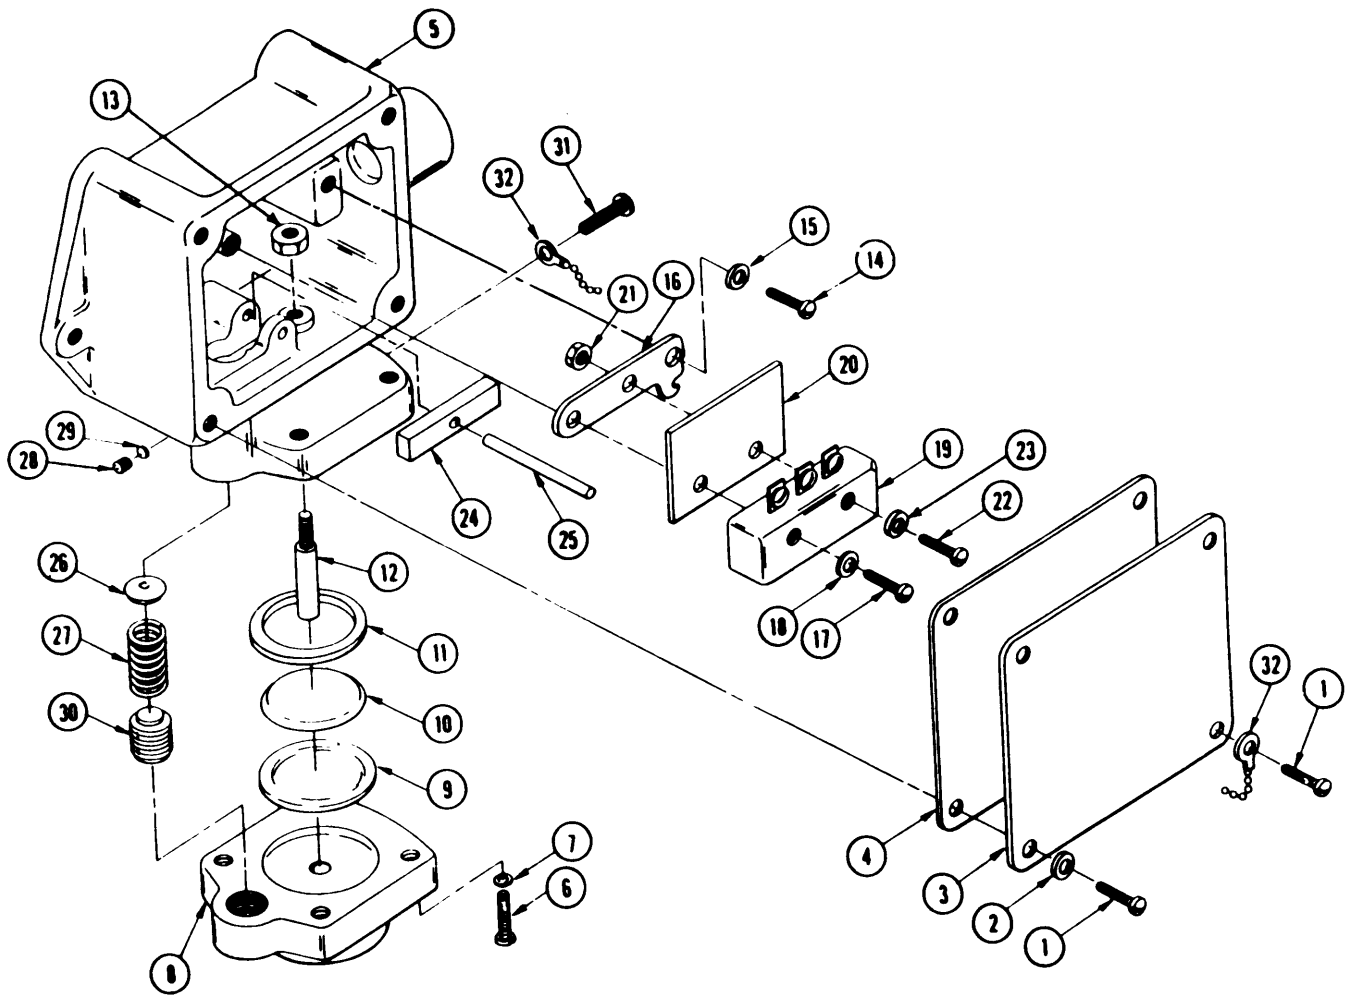

Figure 3-16. Low-Pressure Switch
c. Disassembly. (Figure 3-16)
- (1) Replace all gaskets, O-rings, and seals.
- (2) Replace all damaged nuts, bolts, screws, and washers.
- (3) Replace all broken, fractured, unusable, or unserviceable switch cases, piston cylinders, pistons, and diaphragms.
- (4) Replace all unserviceable switch assemblies, switch levers, adjustment plates, and lever pins.
- (5) Replace low-pressure switch assemblies that are beyond repair or are unserviceable.
g. Reassembly. (Figure 3-16)
- (1) Partially install adjustment plug (30) in switch case (5).
- (2) From inside of switch case, install spring (27) and retainer (26).
- (3) Hold lever (24) in place in switch case (5) and align mounting hole.
- (4) Install lever pin (25) and lever (24) in switch case (5).
- (5) Insert screw (22) and washer (23) through switch (19), Insulator (20), and adjustment plate (16). Align second mounting hole.
- (6) Install nut (21) on screw (22).
- (7) Hold switch (19) with insulator (20) and adjustment plate (16) attached in place in switch case (5) and align mounting holes.
- (8) Install, but do not tighten, screw (17) and lockwasher (18) through switch (19), insulator (20), adjustment plate (16), and switch case (5).
- (9) Install, but do not tighten, screw (14) and lockwasher (15) through adjustment plate (21) and switch case (5).
- (10) Turn switch assembly upside-down.
- (1) Using a dead-weight gage tester with an accuracy of 1/10 of 1%, connect low-pressure switch in accordance with (figure 3-16).
- (2) Apply 120 Vac to low-pressure switch. Indicator light D1 should be off, D2 should be on.